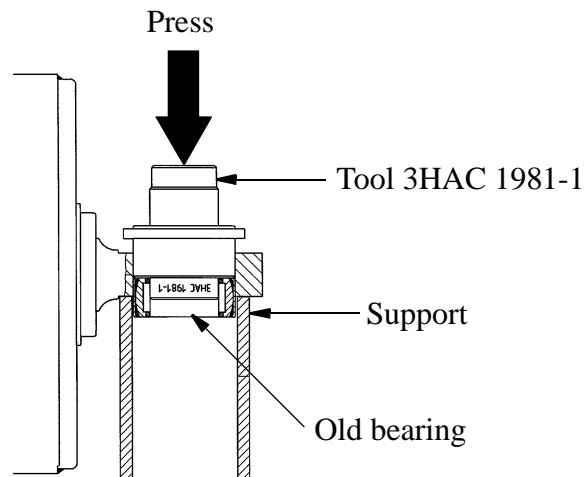

Figure 8 Dismounting of bearing.
2. Push out the old bearing, using tool 3HAC 1981-1. See Figure 8.